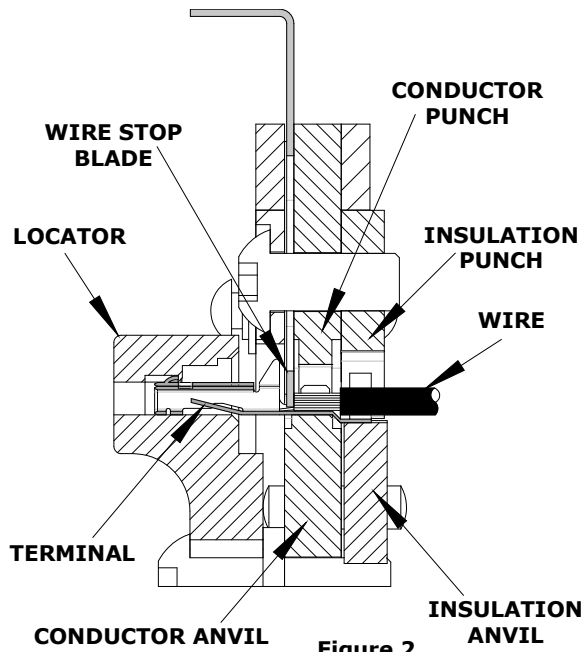

Figure 2
5. Slide the pre-stripped wire into the terminal. Make sure to aim the wire brush toward the tip point on the wire stop blade. See Figure 2. Align the wire so that it is parallel and sitting into the terminal. Maintain a light and constant pressure on the wire that is seated in the terminal at all times. (Do not let go of the wire.) Be sure to hold the wire and terminal in place until the terminal is fully crimped. See Figure 3.